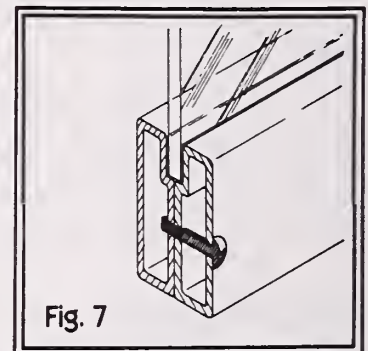

Fig. 7
(B) The glass is sandwiched between the two halves of the frame or sash and held together by rivets or screws. Some form of rubber seal, attached to each inside half of the frame, should be used to make the glass joint airtight (fig. 7).